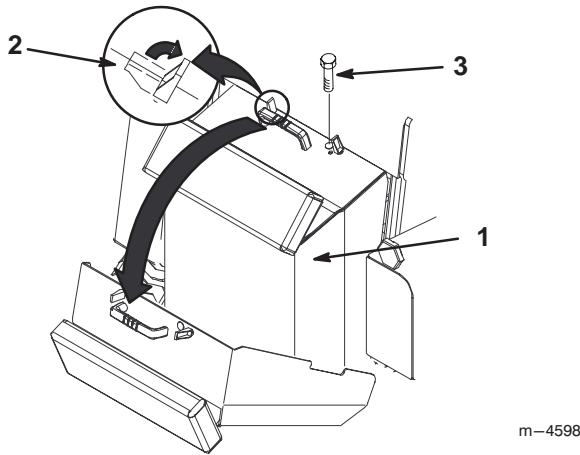

Figure 23
2. Release the two locking tabs on top of the rear access cover (Fig. 23).
3. Remove the bolt located next to the right locking tab (Fig. 23).
4. Grasping the handle, pull the cover up and back to swing it open (Fig. 23).